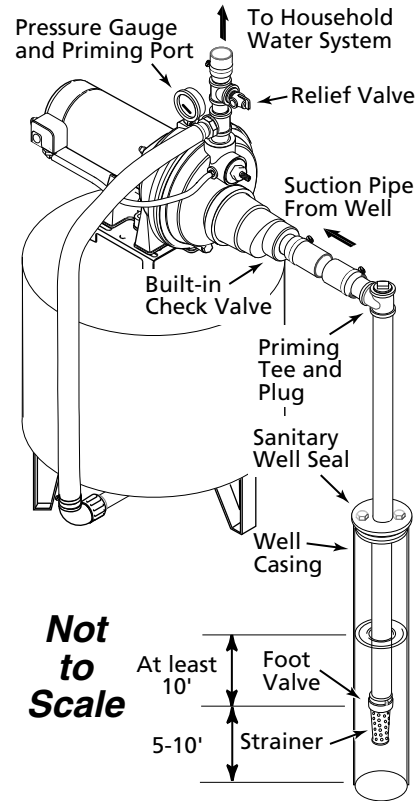

Figure 5 – Cased Well Installation
## Cased Well Installation, 2” or Larger Casing (Figure 5)
3. Assemble the foot valve, strainer, and well pipe (See Figure 5). Make sure that the foot valve works freely.
5. Install a priming tee, priming plug, and suction pipe to the pump (See Figure 5). Connect the pipe from the well to the pump suction port, using the fewest possible fittings (especially elbows) as fittings increase friction in the pipe. The suction pipe should be at least as large as the suction port on the pump. Use teflon tape or a teflon-based pipe joint compound on threaded pipe joints. Support the pipe so that there are no dips or sags in the pipe, so it doesn’t strain the pump body, and so that it slopes slightly upward from the well to the pump (high spots can cause air pockets which can air lock the pump). Seal the suction pipe joints with teflon tape or a teflon based pipe joint compound. Joints must be air and water-tight. If the suction pipe can suck air, the pump cannot pull water from the well.